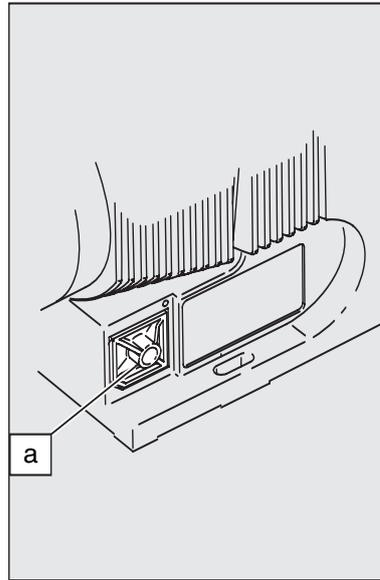

Fig. 15
- ▶ Place the pump on a firm surface with the relay opening press-out section at the top (see fig. 15:a)